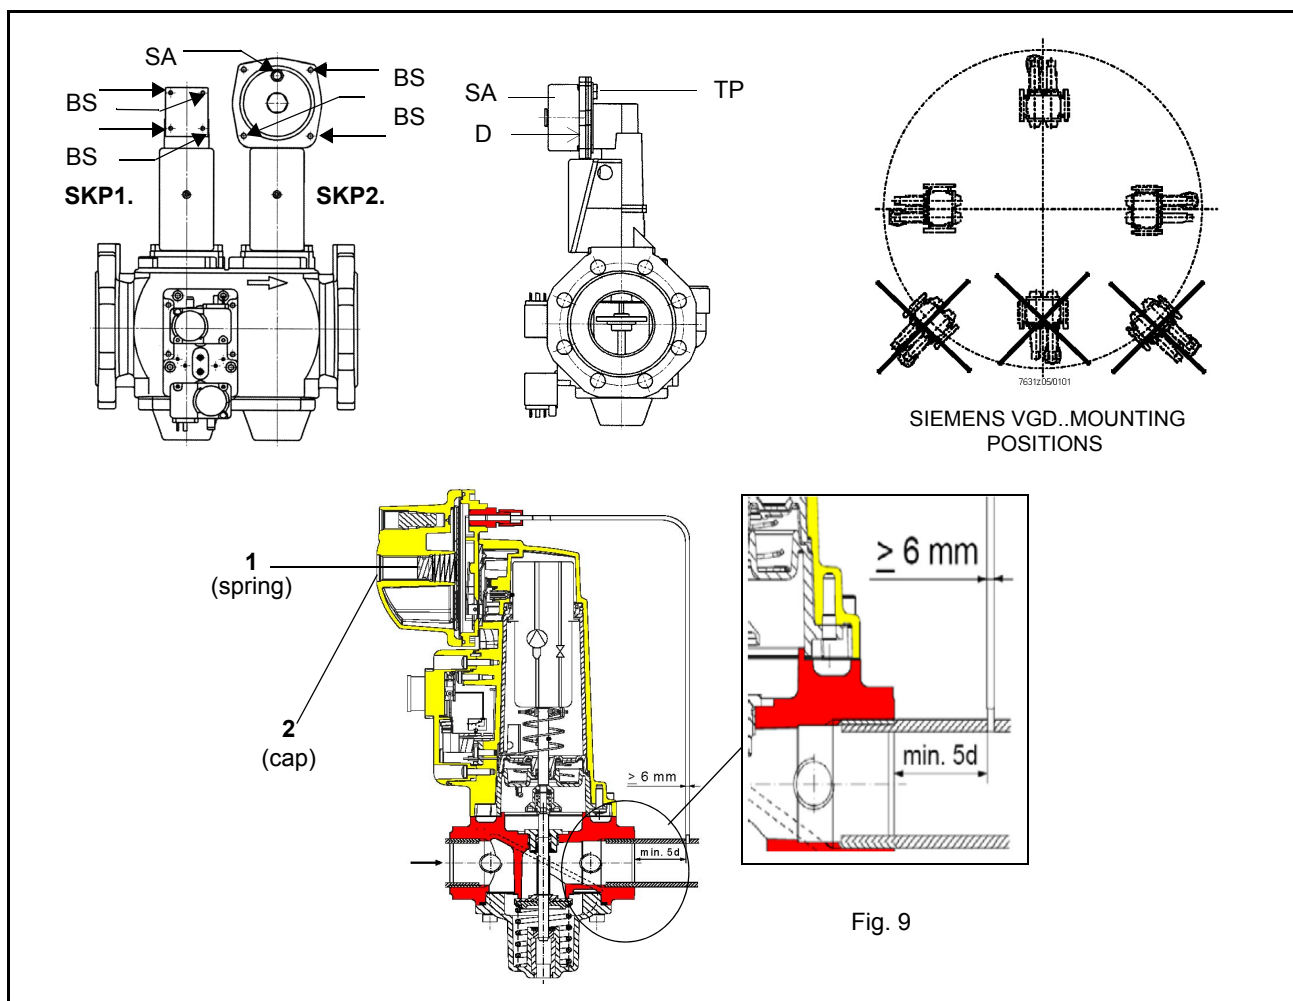

Fig. 9
**Caution:** the SKP2 diaphragm **D** must be vertical (see Fig. 9).